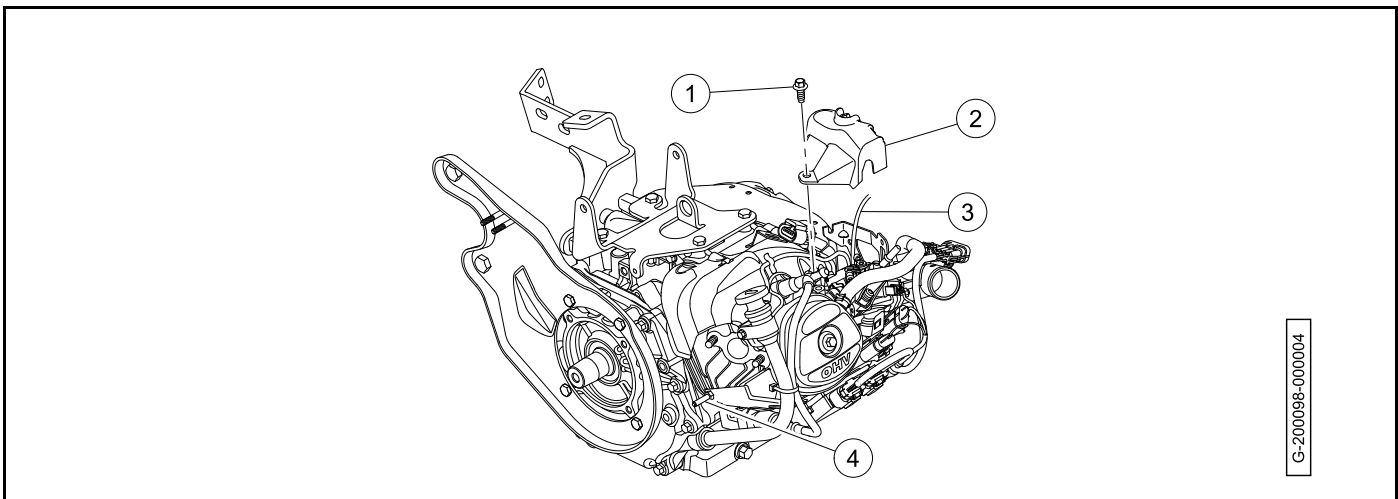

Figure 20-1 Governor Cover and Ground Cable Removal
6. Remove the screw (1) (**Figure 20-1, Page 20-2**)